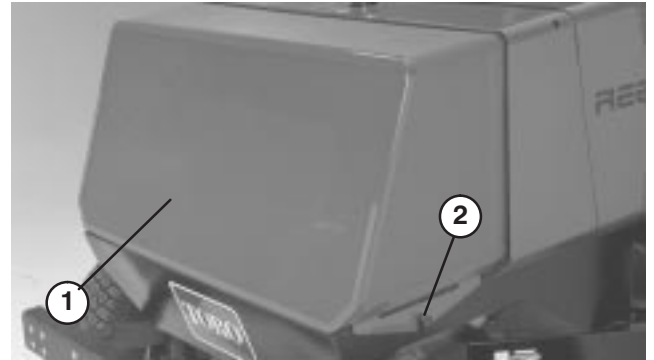

Figure 34
B. Remove knobs securing rear screen to frame and remove screen (Fig. 34).